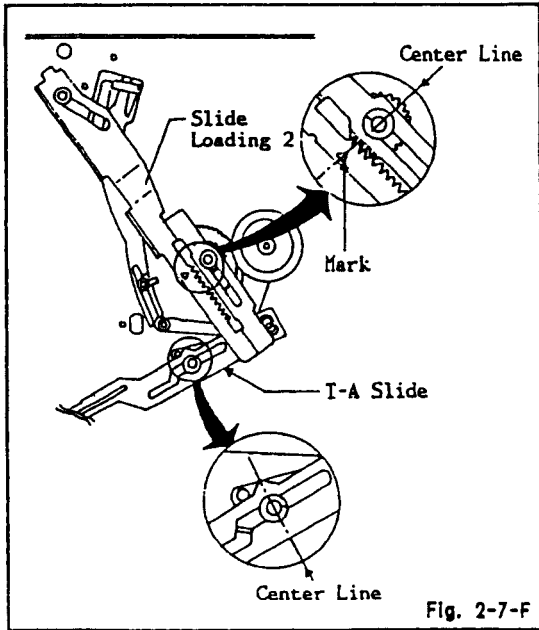

Fig. 2-7-F
REMOVAL (REFER TO FIG. 2-7-A)
3. Remove the screw ①, unlock the hooks (3 positions) which have been connected to the main PCB.
7. Remove the solder "A" positions, remove the screws ① and then remove the deck bottom PCB.
8. Remove the loading motor belt ②.
9. Remove the screw ④, then remove the bracket worm 3.
10. Pull the hook ③ in the direction of arrow, then remove the worm. (Refer to Fig. 2-7-B)
11. Remove the screws ①, then remove the capstan DD unit. (Refer to Fig. 2-7-C)
2. Remove the solder "A" positions, remove the screws ① and then remove the deck bottom PCB.
3. Remove the loading motor belt ②.
4. Remove the screw ④, then remove the bracket worm 3.
5. Pull the hook ③ in the direction of arrow, then remove the worm. (Refer to Fig. 2-7-B)
6. Remove the screws ①, then remove the capstan DD unit. (Refer to Fig. 2-7-C)
(Refer to Fig. 2-7-E, F)
(Refer to Fig. 2-7-B)
(Refer to Fig. 2-7-D)